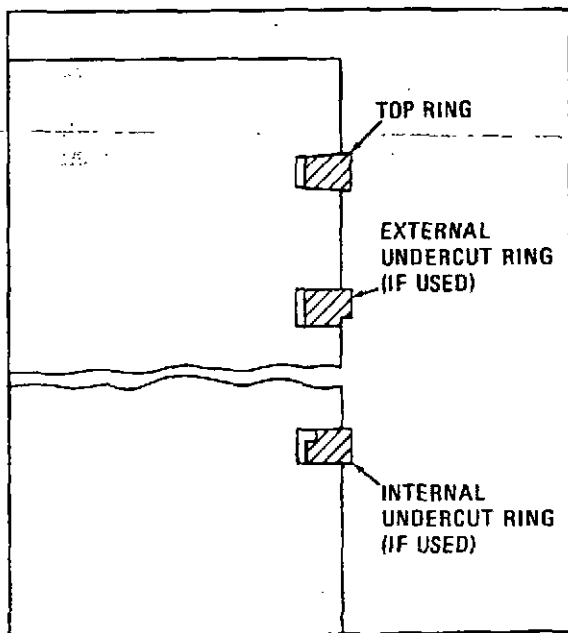

Figure 5-35. Piston Ring Installation
(1) On all piston rings that have the groove on the outside diameter of the ring, place the undercut or groove towards the bottom of the piston. See figure 5-35.
(2) On all piston rings that have the groove cut on the inside diameter of the ring, place the undercut or groove towards the top of the piston. See figure 5-35.